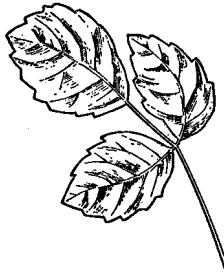

FIGURE 25. Poison Oak.
- b. Poison Oak—see Figure 25.